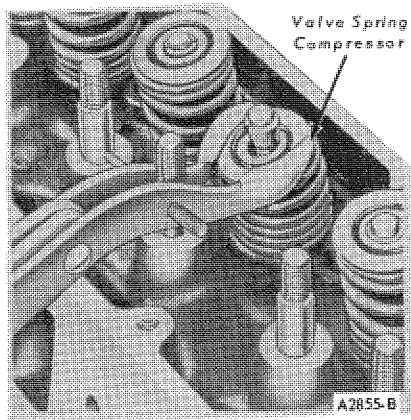
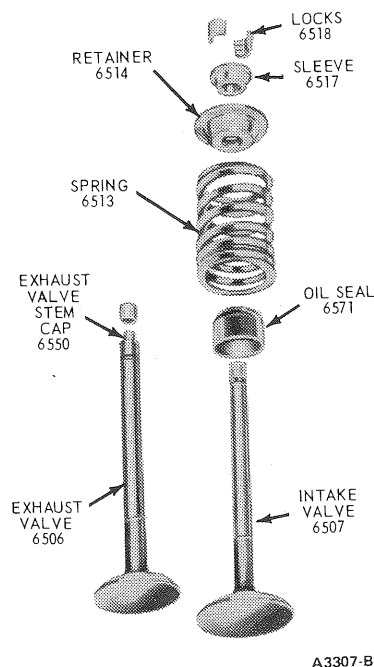

FIG. 71 Compressing Valve Spring on Bench
FIG. 72 Valve Assembly
3. Compress the valve spring (Figure 71). Remove the spring retainer locks and release spring.
1. Install each valve (Figure 72) in the port from which it was removed or to which it was fitted. Install a new stem seal on each valve.
2. Install the valve spring over the valve, and then install the spring retainer and sleeve. Compress the spring (Figure 71) and install the retainer locks (Figure 72).